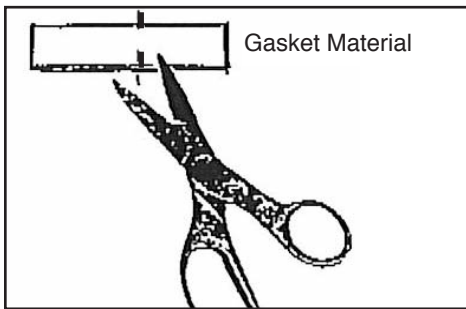

Figure 2
3. Cut each Gasket into 2 pieces. You will need 1 piece for each **half** of the Clamp. **(Scissor) Figure 2**
4. Before removing paper backing from Gasket, fit Gasket to Clamp to verify correct length. Cut Gasket material to exact length of Clamp half. **(Scissor) Figure 2 and 3**
Figure 2 and 3